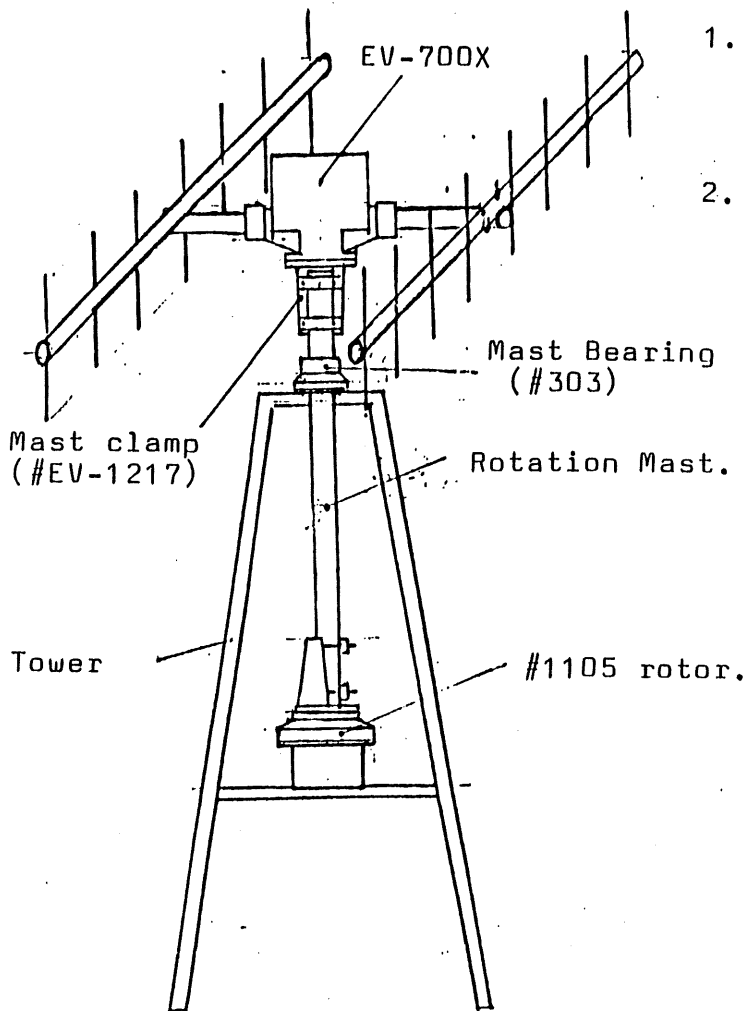

Fig. 1.
1. As per Fig. 1 and photo 1, put the EV-700X on 1105 Rotor directly and install on the top of antenna tower.